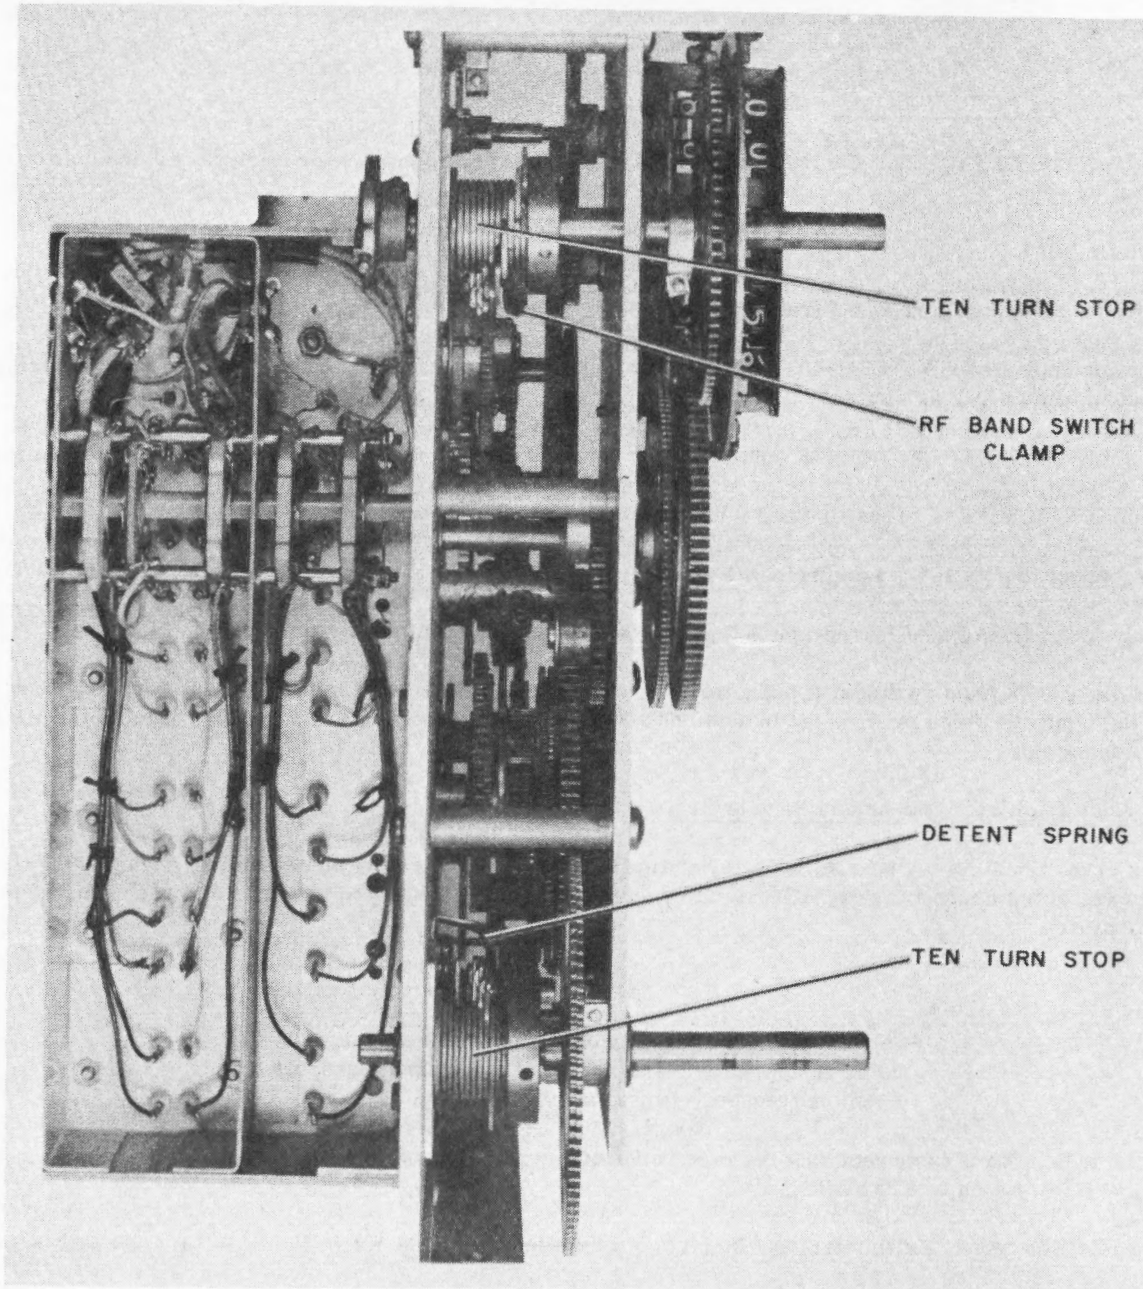

Figure 6-3. Location of RF Band Switch Shaft Clamp, Detent Spring and Ten-Turn Stops
6.2.5.1 Ten-Turn Stops. Check the 10-turn stops (figure 6-3) by rotating the MEGACYCLE CHANGE and KILOCYCLE CHANGE shafts fully counterclockwise. The first two digits on the frequency indicator should indicate halfway between 99 and 00 MHz (off the detent position). The next three digits should indicate between -963 and -972 kHz.
9. Loosen the RF band switch clamp (figure 6-3). Turn the band switch shaft until the rotors are centered on the contacts which provide the indications required in procedures 4 and 5 above. Tighten the RF band switch clamp.